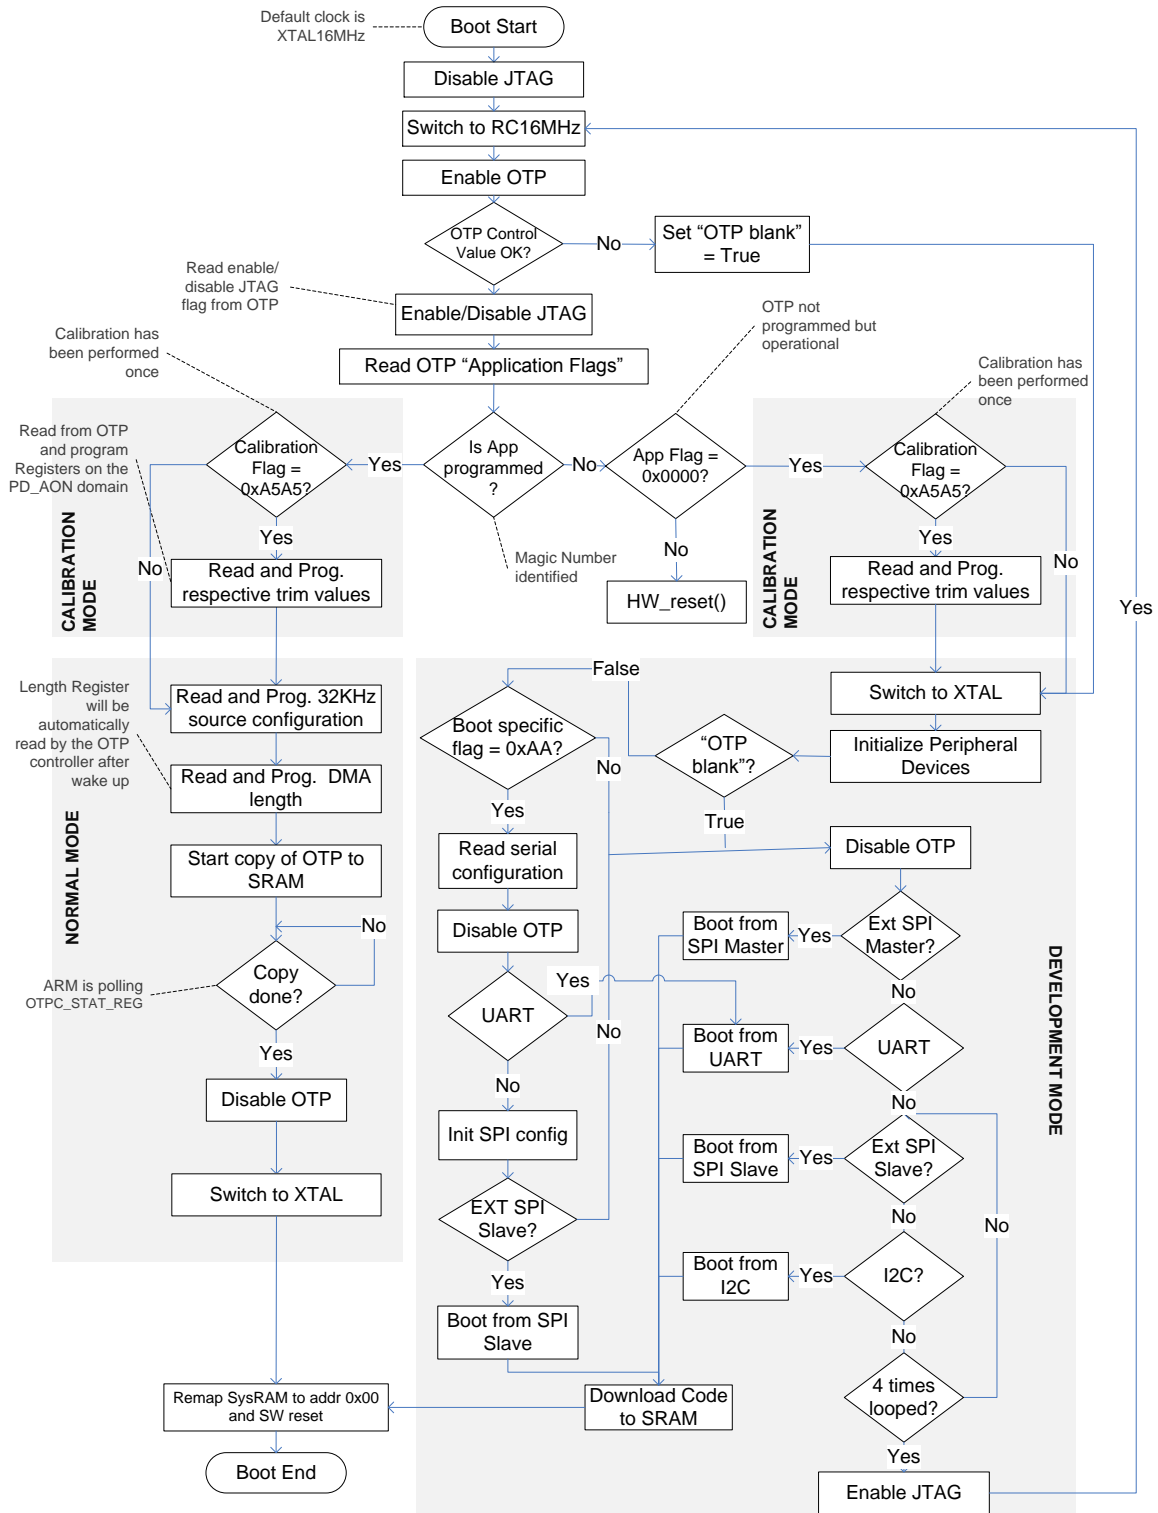

Figure 12: BootROM Sequence
The booting process of the DA14585 is presented in Figure 12.
**Note 3** This step is performed in a 4 times' loop (see Figure 12). SCK in 1st iteration is 8MHz, in 2nd 4MHz, in 3rd 2MHz and in 4th 1MHz.